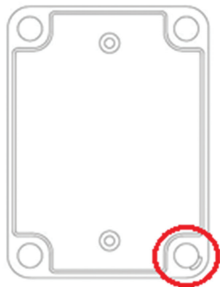

Figure 2
**Note:** Mount the enclosure with the screw slit side in the bottom right corner, see Figure 2)